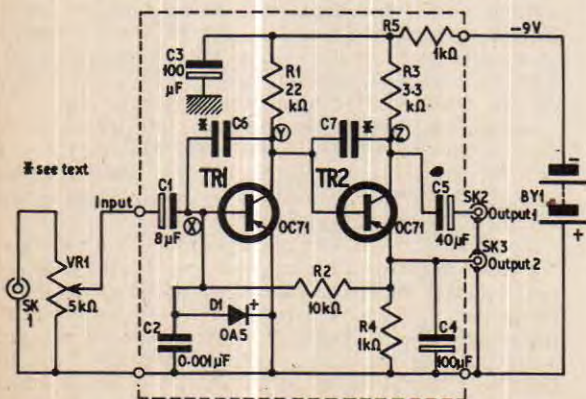
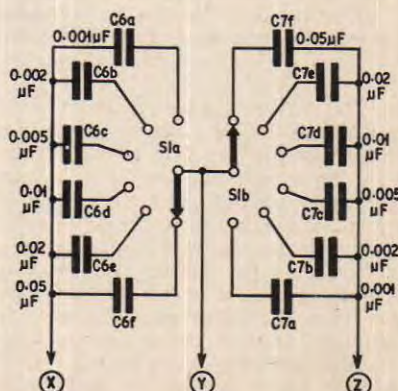
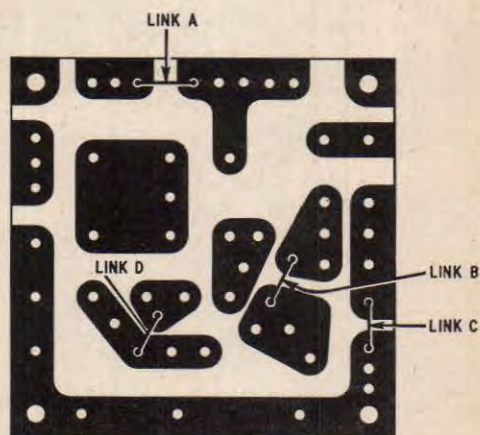
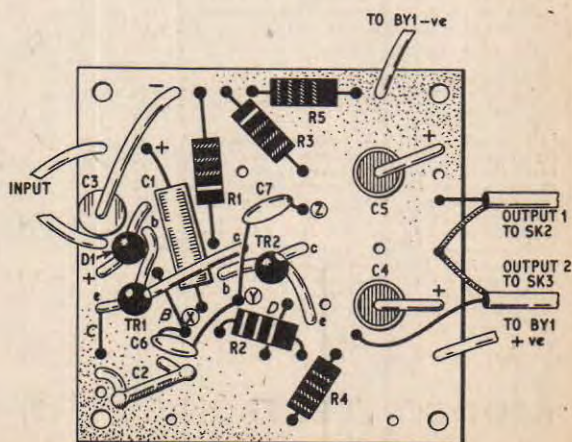

Fig. 1. Circuit diagram of the pre-amplifier modified to form a bass booster
Fig. 2. Capacitors C6 and C7 can be replaced by a stepped control connected to (X), (Y), (Z) on the pre-amplifier
Fig. 4. Basic pattern of the printed circuit board. In this circuit links B, C, and D only are used. Link A is replaced by resistor R5
Fig. 5. Layout of components on the printed circuit board
Fig. 1 below shows the circuit of the pre-amplifier with two feedback capacitors C6 and C7 added. Different values of capacitor may be used for different degrees of bass boost; if only a small amount of boost is required C6 could be $0.005 \mu\text{F}$ and C7 should be omitted. A larger degree of boost is achieved when C6 is $0.01 \mu\text{F}$ and C7 (also $0.01 \mu\text{F}$) is inserted. The bass can be boosted further by doubling these values so that C6 and C7 are $0.02 \mu\text{F}$ each.
It may be preferable to fit switched variable bass boost control. Here the circuit is basically the same, but C6 and C7 are replaced by the network shown in Fig. 2. This is easily made up on a two-pole, six-way rotary wafer switch S1 and connected to the pre-amplifier at points (X), (Y), and (Z). Figs. 1 and 5 show the appropriate positions.
Fig. 4 shows the basic pattern of the printed circuit board full size. The link wires at positions B, C and D only are used. Components for the circuit in Fig. 1 are mounted on the board as shown in Fig. 5.
If C6 and C7 are replaced by the stepped control (Fig. 2) lead out wires should be connected at points (X), (Y), and (Z) for linking the control. ★